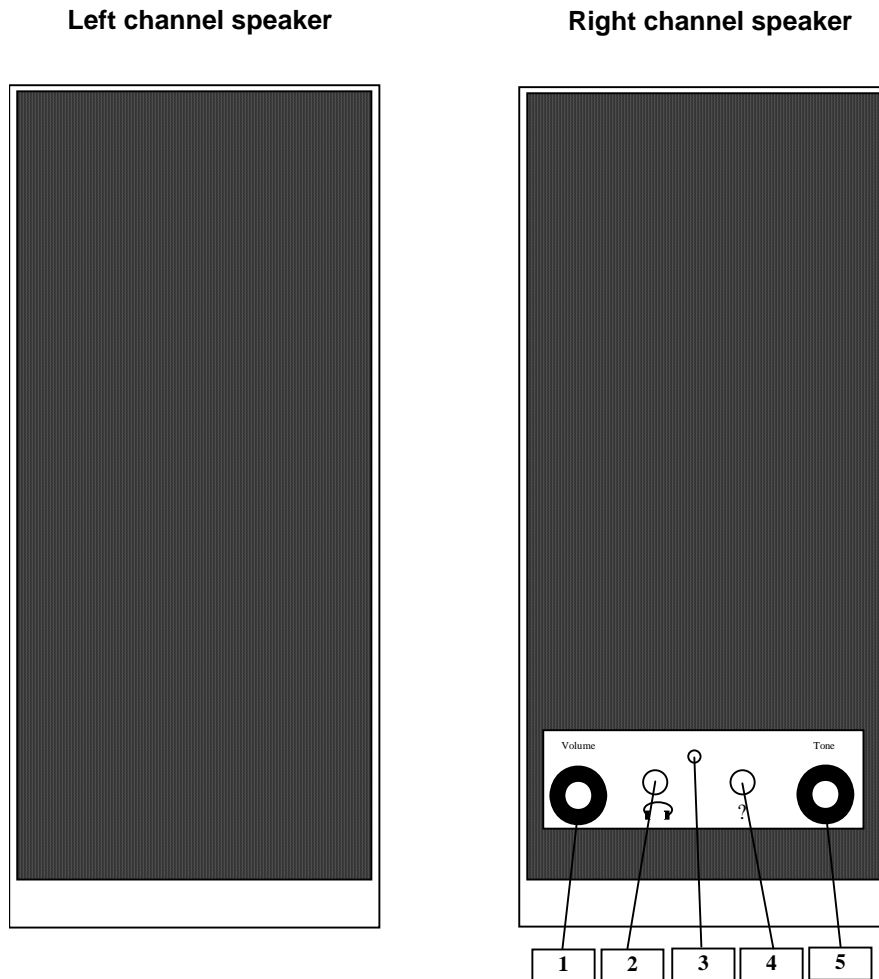

Figure 58 : Logitech X-140 speakers front panels
- A2 (Indicators) aid: Refer to the front panel LED Figure 58.
- To switch ON the Logitech X-140 speakers, turn clockwise the Volume control located on the front panel of the unit (see Figure 58). The power indicator comes on.
- To switch OFF the Logitech X-140 speakers, turn counter clockwise the Volume control located on the front panel of the unit (see Figure 58). The power indicator comes off.